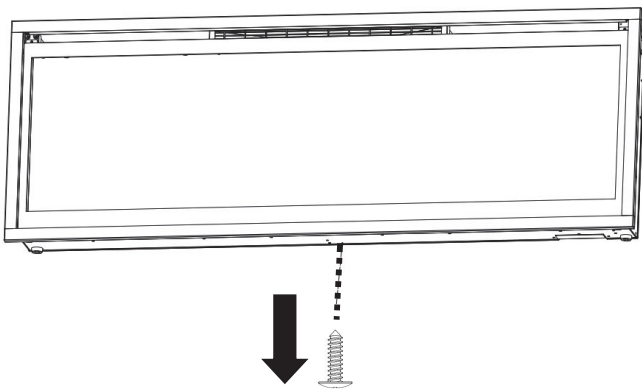

Fig 3-1
A.Remove the silver screw at the bottom of the appliance. (**Fig 3-1**). Set the screw aside.